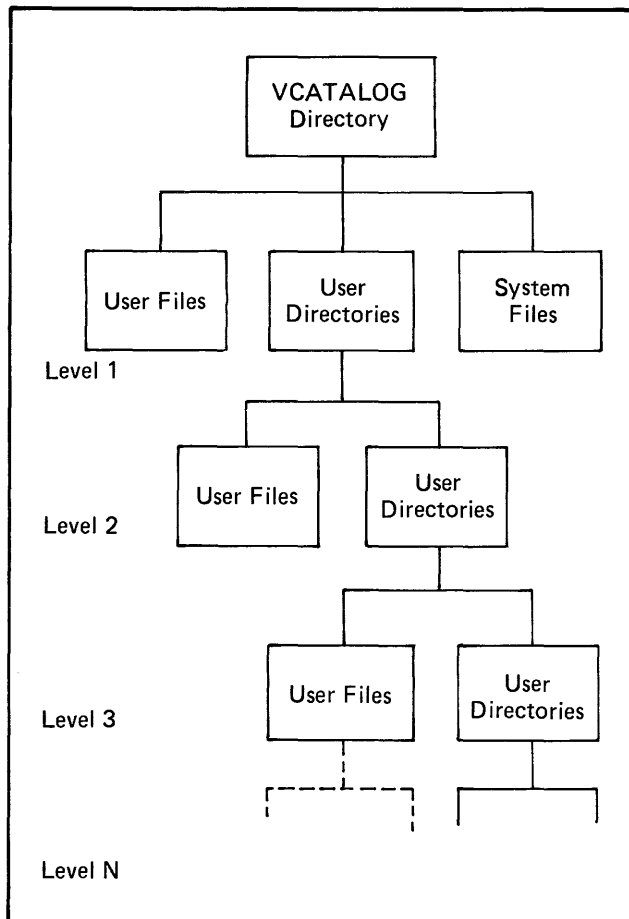

Figure 6. Files and Directory Structure
**Dynamic File Area.** Area on a disk volume other than tracks 0 and 1 is dynamically allocated to files. Each disk volume has a specific file directory named VCATALOG where the DX10 operating system maintains a volume table of contents. As shown in figure 6, the files described in VCATALOG can be data files or directory files.